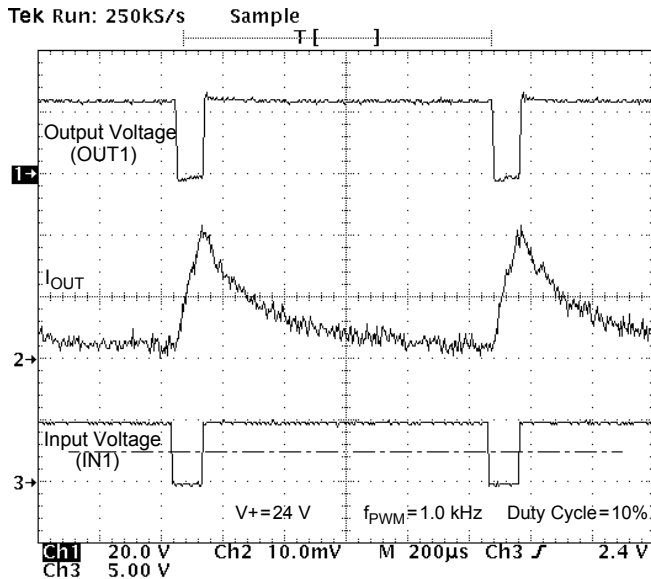

Figure 11. Output Voltage and Current vs. Input Voltage at $V^+ = 24\text{ V}$, PMW Frequency of 1.0 kHz, and Duty Cycle of 10%
23. The outputs can be PWM-controlled from an external source. This is typically done by holding one input high while applying a PWM pulse train to the other input. The maximum PWM frequency obtainable is a compromise between switching losses and switching frequency. See Typical Switching Waveforms, Figures 11 through 18, pp. 15–16.